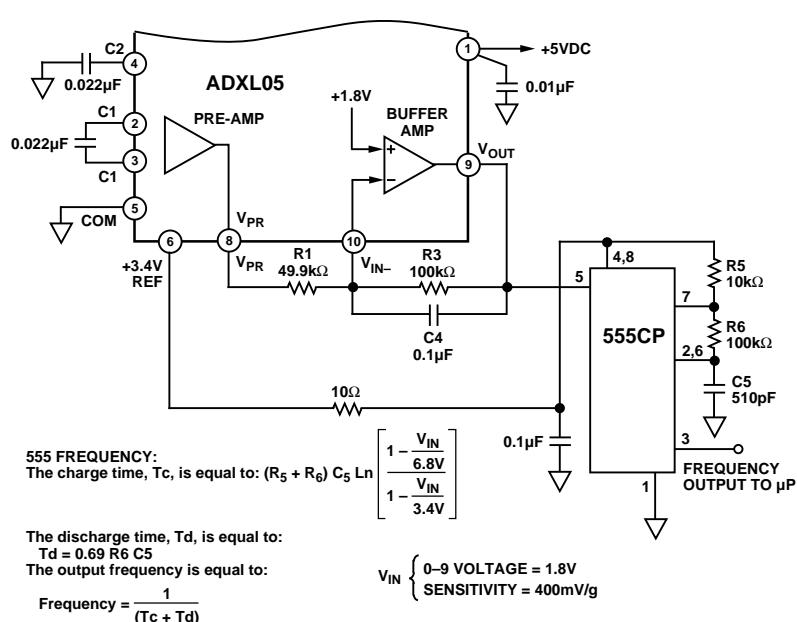

Figure 3. Low-cost acceleration-to-frequency circuit, using a popular and widely available 555 timer.
**Acceleration to frequency at very low cost using a 555 timer:** Figure 3 shows how an ADXL05 accelerometer can be connected to a low-cost CMOS 555 timer to provide a frequency output. The component values indicated were selected for a  $\pm 1-g$  tiltmeter application.
Using the circuit and component values shown in Figure 3, the nominal output scale factor at pin 9 of the accelerometer will be  $\pm 400$  mV/g, so the voltage output will be  $+1.8\text{ V} \pm 0.4\text{ V}$ . The output scale factor at pin 3 of the 555 will be approximately  $16,500\text{ Hz} \pm 2,600\text{ Hz per g}$ .
Frequency stability of this circuit was found to be quite good. Using the circuit of Figure 3 with a 15.5-kHz 0-g frequency, the measured 0-g frequency drift over the 0 to +70°C commercial temperature range was 5 Hz/°C, which is 0.03%/°C. The change in frequency vs. supply voltage is less than 10 Hz with a +5.0 to +9.0-volt supply range. □